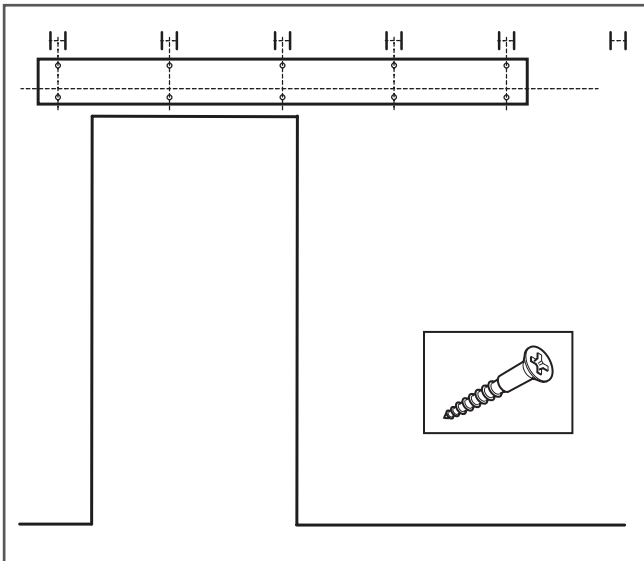

Figure 7
8. Align the line on the wall with the line made on the header in step 4. Ensure pilot holes align with wall studs (Figure 7).
9. Install header using 3" wood screws (Figure 7).